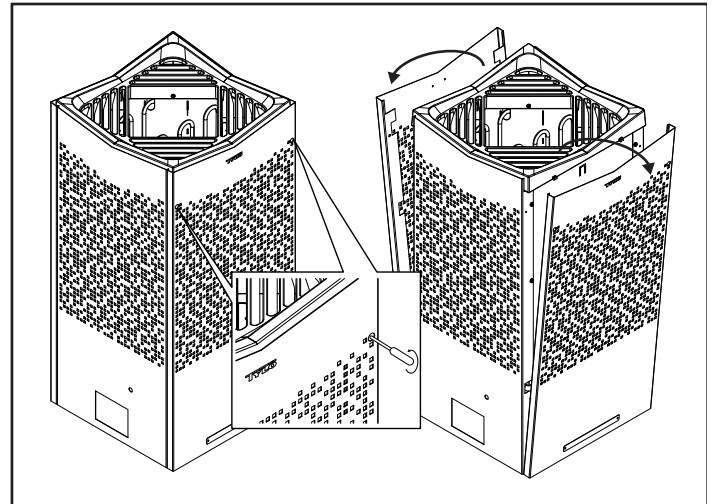

Figure 7: Unscrew the hidden screws, torx 20, take off the front and back panels.
1. Lift off the front and back panels, figure 7.